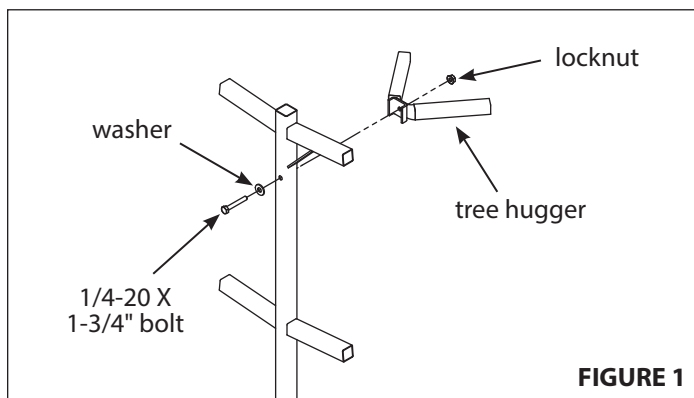

FIGURE 1
1. Attach one tree hugger (17558) to each stick section using (1) provided 1/4-20 x 1-3/4" bolt, 1/4" washer and locknut to each section. **Tighten all nut and bolt assemblies. Be sure not to over tighten or crush tubing when tightening! SEE FIGURE 1**